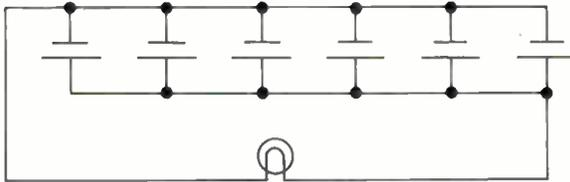

Fig. 45
- 36 8. If a single cell of Fig. 45 will deliver a continuous current of 2 A for 12 hr, how long will the 6-cell battery operate the light? (Assume the bulb draws 2 A.)
- (1) 2 hr (3) 6 hr (5) 72 hr
(2) 4 hr (4) 48 hr